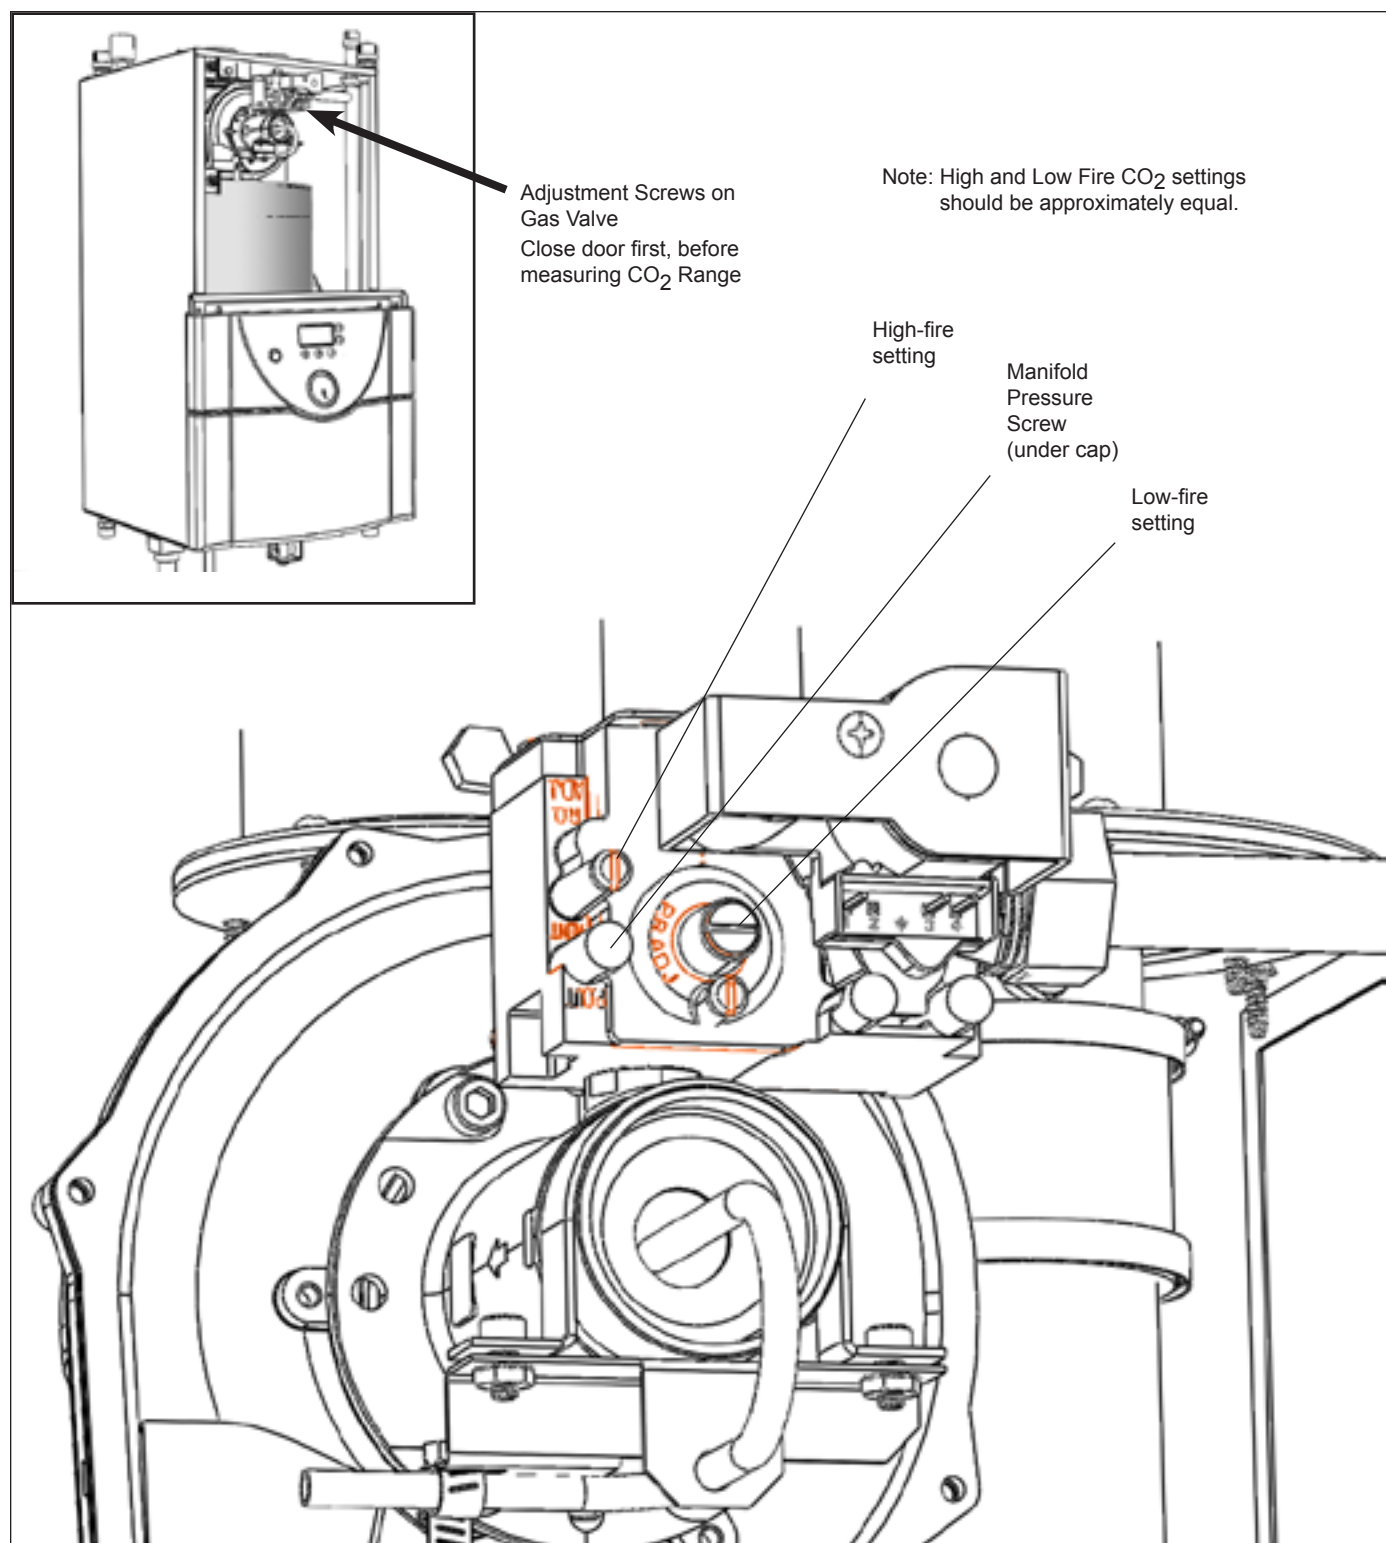

Figure 26. Adjustment Screws and Settings for CO₂
1. Measure the CO₂ in the flue products at high fire. The Mascot LX can be forced to high fire to allow for easier setup. Refer to **Section 8** for instructions on how to access the forced rate menu. The CO₂ readings should be between the range shown in **Table 17**. If the CO₂ is not within the range shown, adjustments may be made. To adjust the high fire CO₂, locate the high fire adjuster screw (see **Figure 26**). Slowly make adjustments in 1/16 of a revolution increments until the CO₂ is within the range identified.
2. Measure the CO₂ in the flue products at low fire. Mascot LX can be forced to low fire to allow for easier setup. Refer to **Section 8** for instructions on how to access the forced rate menu. CO₂ readings should be between the range shown in **Table 17**. If the CO₂ is not within the range shown, adjustments may be made. To adjust the low fire CO₂, locate the low fire adjuster screw. Slowly make adjustments in 1/16 of a revolution increments until the CO₂ is within the range identified (see **Figure 26**).
6. With a combustion analyzer, check CO₂ levels at both maximum and minimum input. Refer to sections **Figure 26** and **Table 17** of this manual for the proper adjusting procedures.